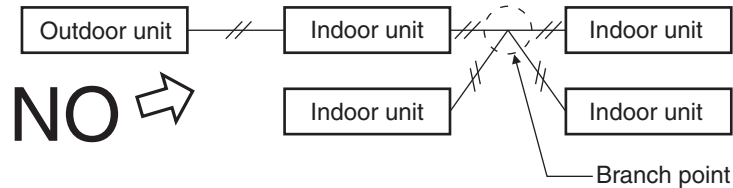

Fig. 4-2
(3) Do not install inter-unit control wiring such as star branch wiring. Star branch wiring causes misaddress setting. (Fig. 4-2)